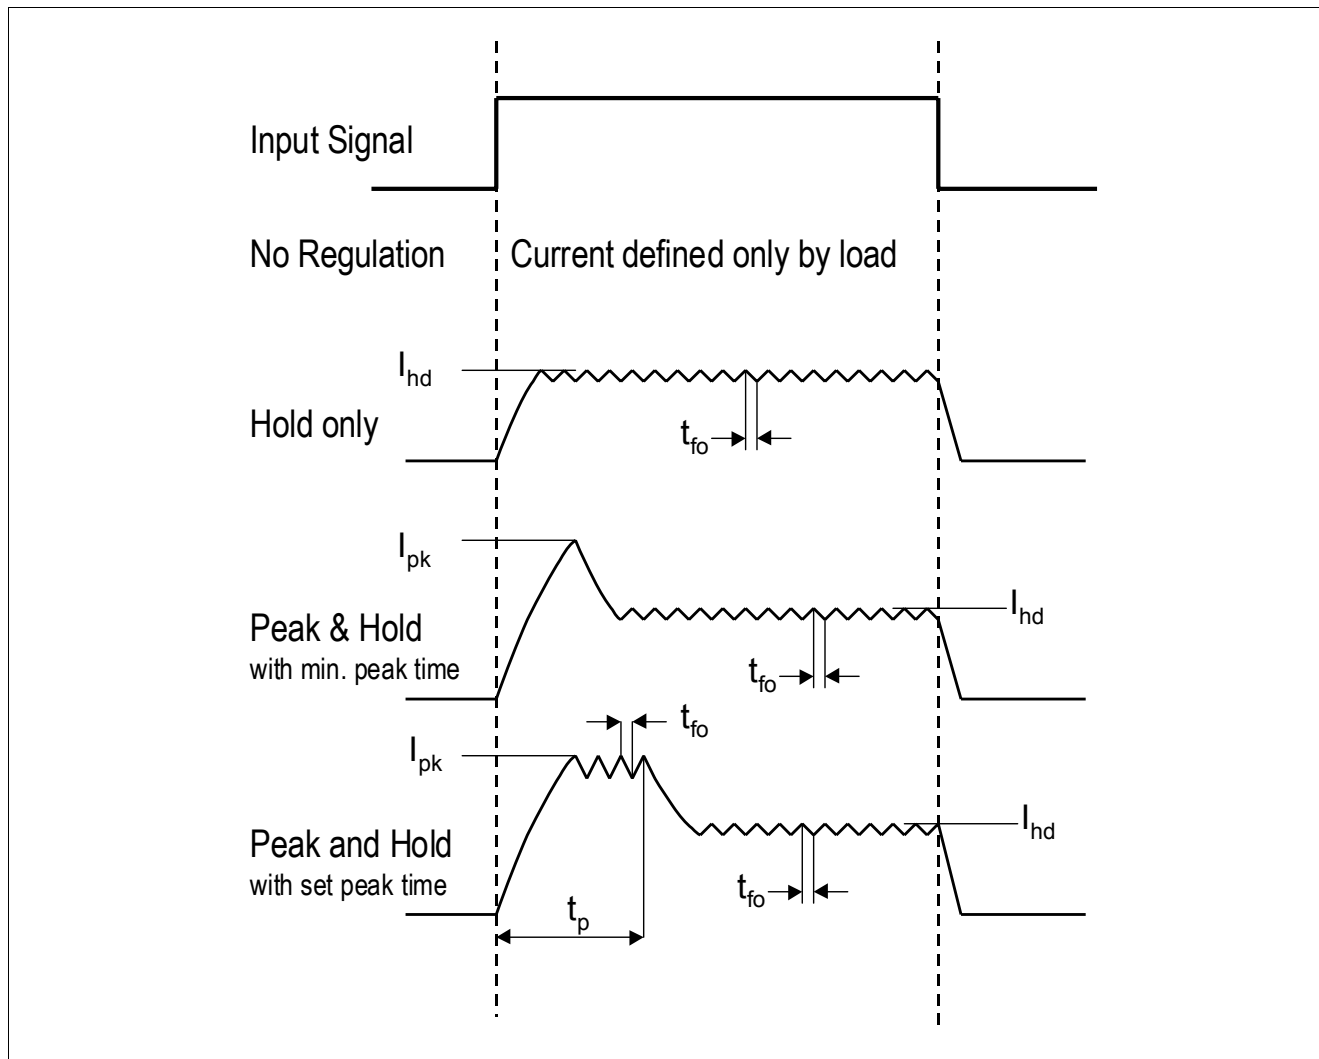

Figure 6 Current Forms of the Different Current Control Modes of Channel 1-3
- Peak Current, Peak Time, Hold Current and Off-Time can be selected by SPI to set average and ripple current for a given load (refer to Figure 6)